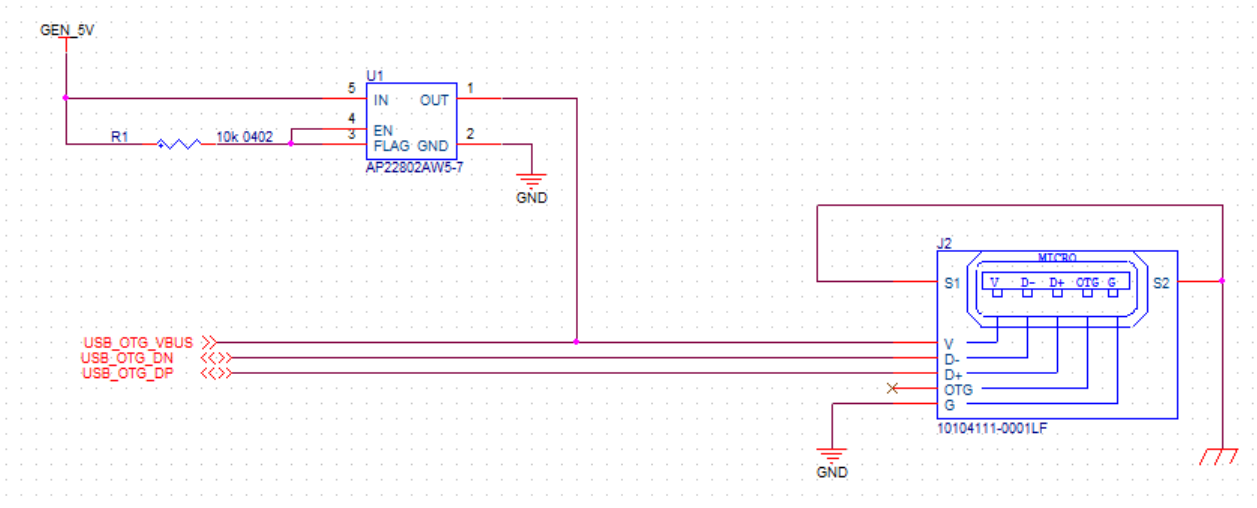

Figure 6 : USB OTG example
- The USB OTG channel on J9 (USB_OTG_DN, USB_OTG_DP) has no power protections. There is no connections with the OTG ID signal, so it can be left floating on the connector side. The OTG can be driven using a schematic like the one in the following Figure 6 (Note : U1 is optional, the power on the V+ pin of the connector is powered from a 5V with a series 33Ω) :